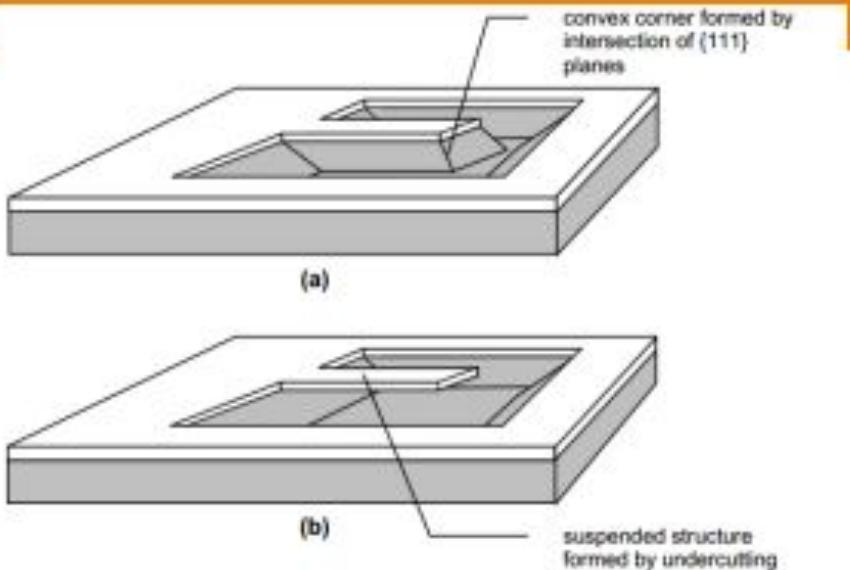

Fig. 4.6. Purposely exposing convex corners formed by {111} planes (a) can be used to undercut hard masks, thereby creating suspended structures (b).
MEMS designers use anisotropic etching techniques in order to create the uniquely shaped trenches often seen in MEMS devices. The most common of these is the inverted pyramid shape seen in the anisotropic etching of (100) silicon, the sidewalls of which make angles of 54.7° with the plane of the wafer. (Fig. 4.5.) If the window through the hard mask is made small enough, the etch will continue only until the intersection of the {111} planes is reached. The crystalline structure serves as its own etch stop in this case. However, this technique only works when the {111} planes form concave corners. Even the slightest deformity on a convex corner of the intersection of {111} planes will expose much faster etching planes, which leads to massive undercutting of the hard mask. Sometimes this is most undesirable and the designer must make use of cleverly designed sets of masks for “corner compensation”. However, this undercutting is often planned right into the process, as is the case in creating suspended structures over etched pits. (Fig. 4.6.)